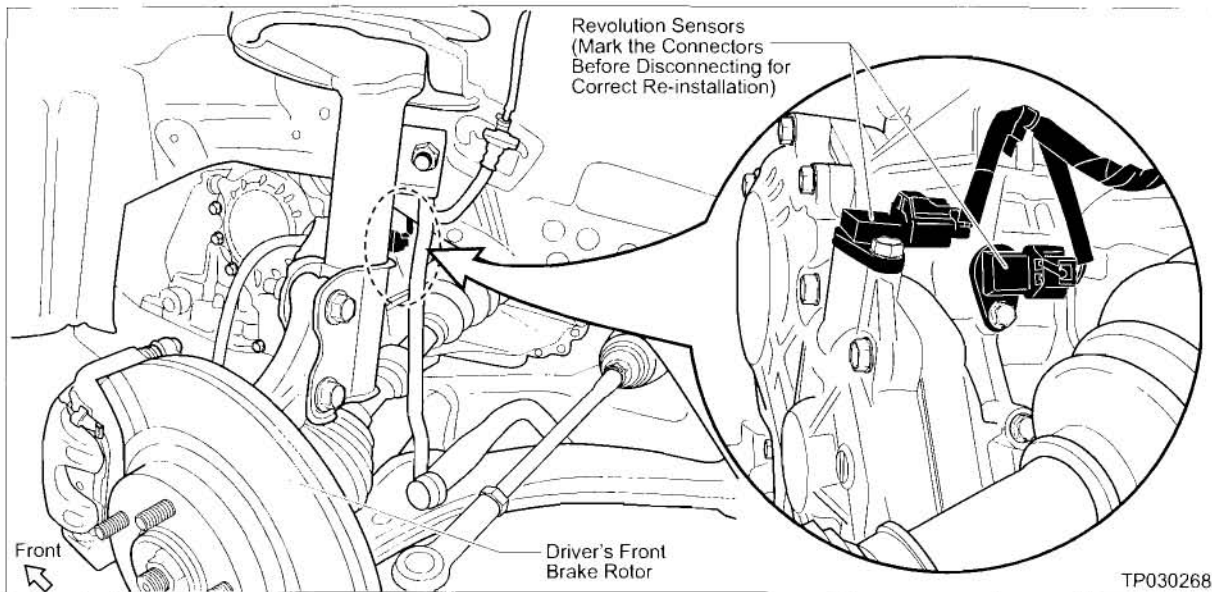

Figure F9
- Make sure you mark the A/T Revolution Sensor Wire Harness Connectors for proper re-installation (see Figure F9). If these connectors are “mixed up”, improper transmission shifting can occur.